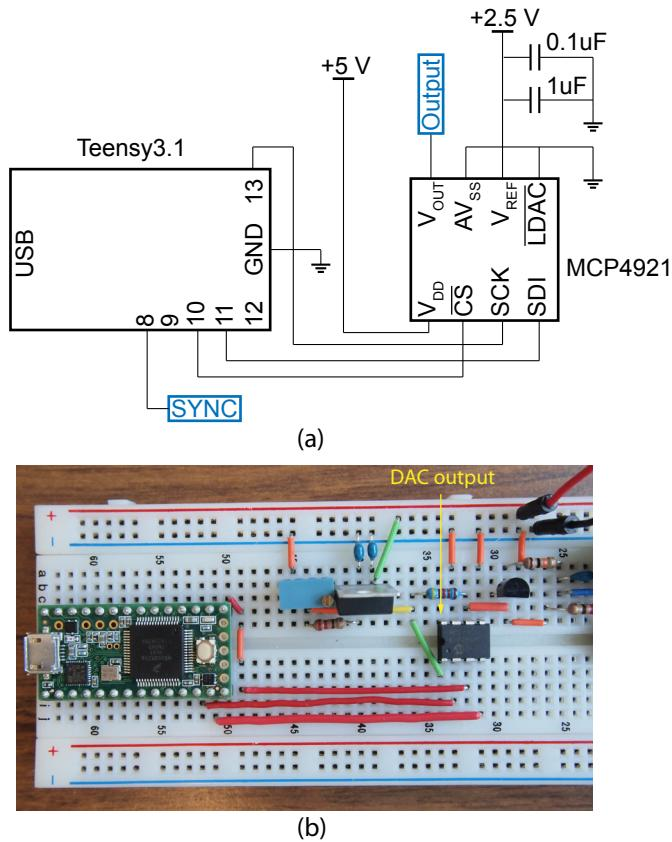

Figure 12: Schematic of the connection between the Teensy 3.1 and the MCP4921.
1. Using Fig. 12-a as a reference, connect the Teensy to the MCP4921 DAC. Connect the MCP4921's VDD pin to the output of the LM317 regulator (5 V). Connect the MCP4921's VREF pin to the LT1009 reference's output (2.5 V). Connect both AVSS and LDAC of the MCP4921 to ground. A 0.1  $\mu$ F and a 1  $\mu$ F capacitor could be used at VREF to minimize noise at the reference. It is very important to keep your circuit (ICs, resistors, capacitors, wires, etc) organized. Use as short of a wire as possible between two connection points. Refer to Fig. 12-b for an example layout.